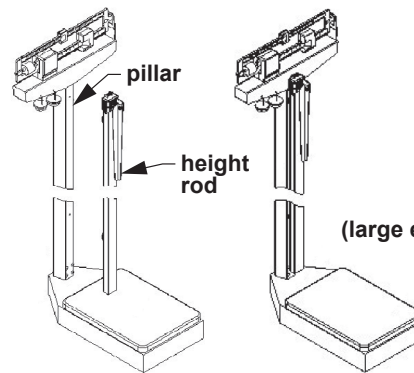

Fig. 6: Attach Height Rod to Pillar
1. Install the height rod back-side slots over the two pillar front-side bolts and slide the height rod down until securely attached to the pillar as shown in Fig. 6 and 7.